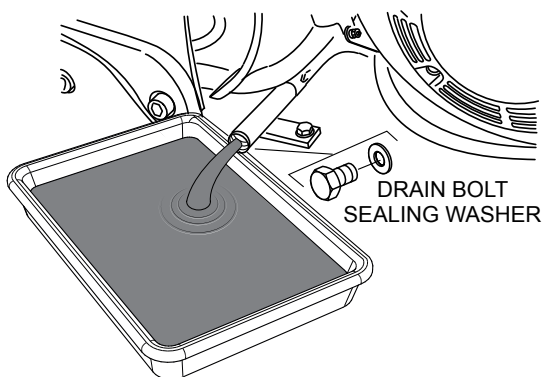

Figure 23. Draining Engine Oil
1. Remove the oil drain bolt (Figure 23). and sealing washer and allow the oil to drain into a suitable container.